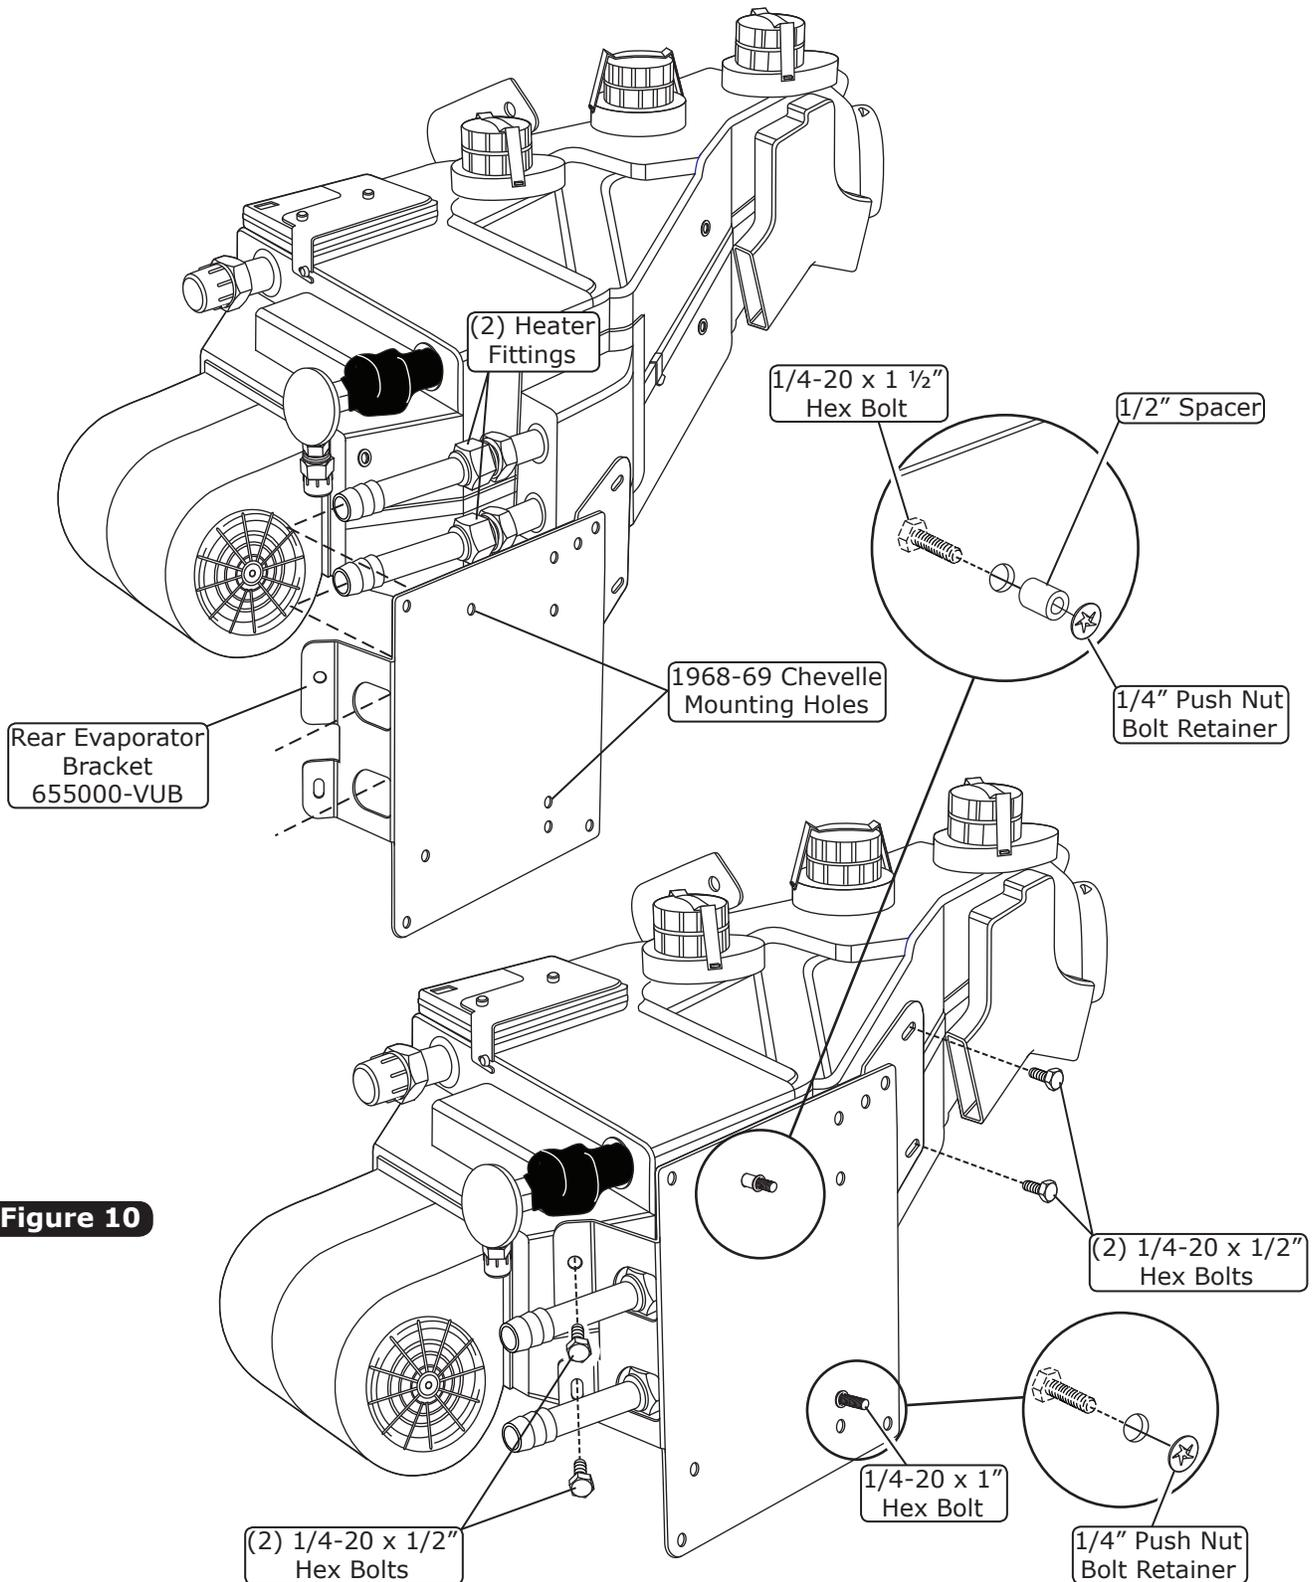

Figure 10
1. On a workbench install (2) heater fittings with properly lubricated O-rings (See Figure 15, Page 14, and Figure 10, Page 11).
2. Install a 1/4-20 x 1" hex bolt and a 1/4-20 x 1 1/2" hex bolt with 1/2" spacer and (2) 1/4" push nut bolt retainers on evaporator rear bracket as shown in Figure 10, Page 11.
3. Install the evaporator front and rear mounting brackets onto the evaporator using (5) 1/4-20 x 1/2" hex bolts and tighten as shown in Figure 9, below, and Figure 10, Page 11.